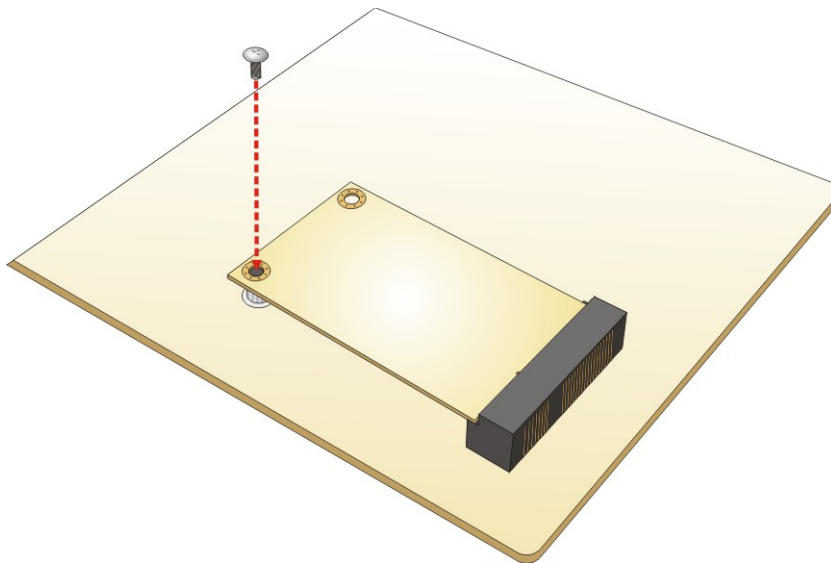

Figure 4-4: Securing the Full-size PCIe Mini Card
Step 4: Secure the full-size PCIe Mini card. Secure the full-size PCIe Mini card with the retention screw previously removed (Figure 4-4).